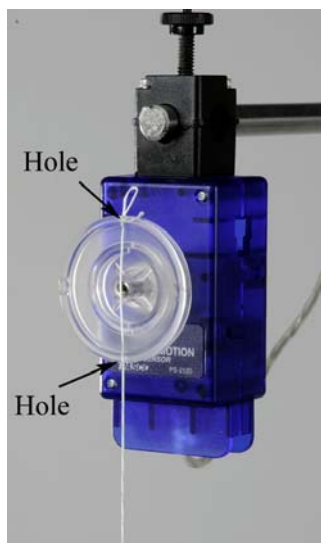

Figure 3. Hanging String
3. Cut a length of string about 1.5 m long and thread one end through both holes in the Rotary Motion Sensor pulley as shown in Figure 3. Tie a knot at the top to keep the string from pulling back through.